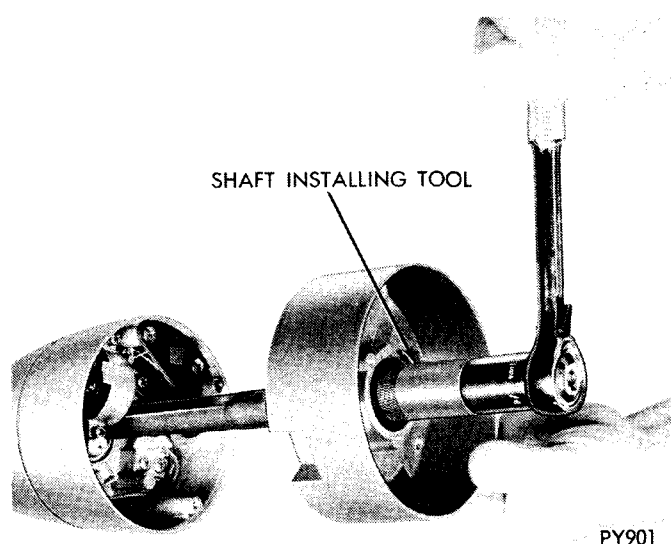

Fig. 24—Pulling Shaft into Bearing
(3) Install the retaining plate over the switch and tighten 3 screws to 27 inch-pounds.
(4) Install the turn signal lever or turn signal speed control lever on the turn signal switch.
(5) Position the bearing housing assembly on the column jacket assembly, feeding the wires through the space between the lower housings and the jacket.
(6) When installing this housing, the steering shaft must be drawn, not pushed, through the bearing, using the bearing inner race as a reaction member, or damage to the lock housing components, or bearing could result. **DO NOT DRIVE THE SHAFT INTO THE BEARING.**
(7) Install on steering shaft, Tool C-3879, with washer and steering wheel nut (Fig. 24). Turn nut to pull shaft through bearing. Remove tool and install upper snap ring on shaft.
(8) Install and tighten to 35 inch-pounds the 3 bearing housing to lock housing screws.
(9) Carefully install the lamp assembly in the bearing housing (Automatic transmission).
(10) Install the wiring trough in place over the